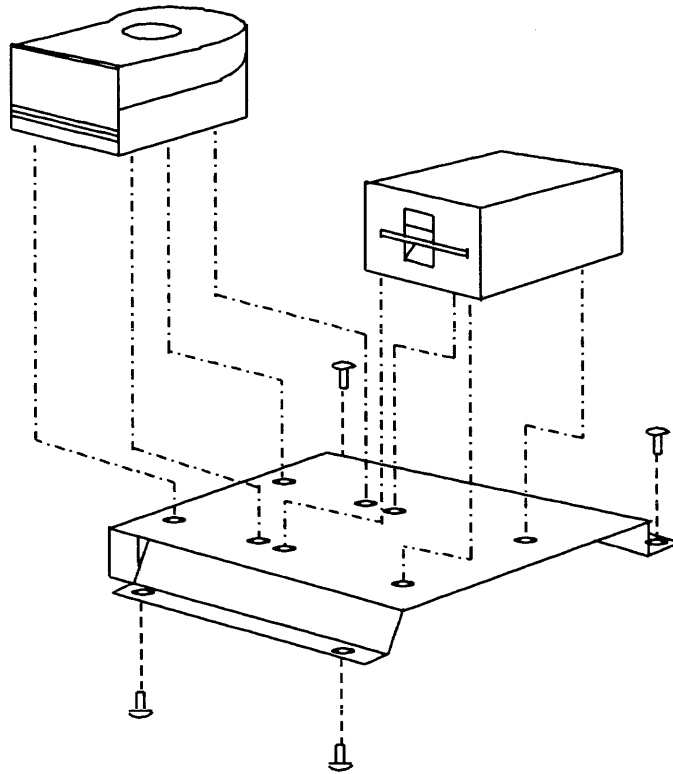

Figure 2-4. Drive Assembly (Release 2.0)
The Release 2.0 plate is held in place by four screws; the back two are accessible from inside the chassis, but the front two must be accessed from the bottom of the chassis (Figure 2-4).
8. Disconnect all cables from the back of the drives. Lift the drive assembly clear of the system, turn it over, and carefully lay it down on a soft surface. Then remove the four Phillips screws located on the base of the drive as shown in Figure 2-4.